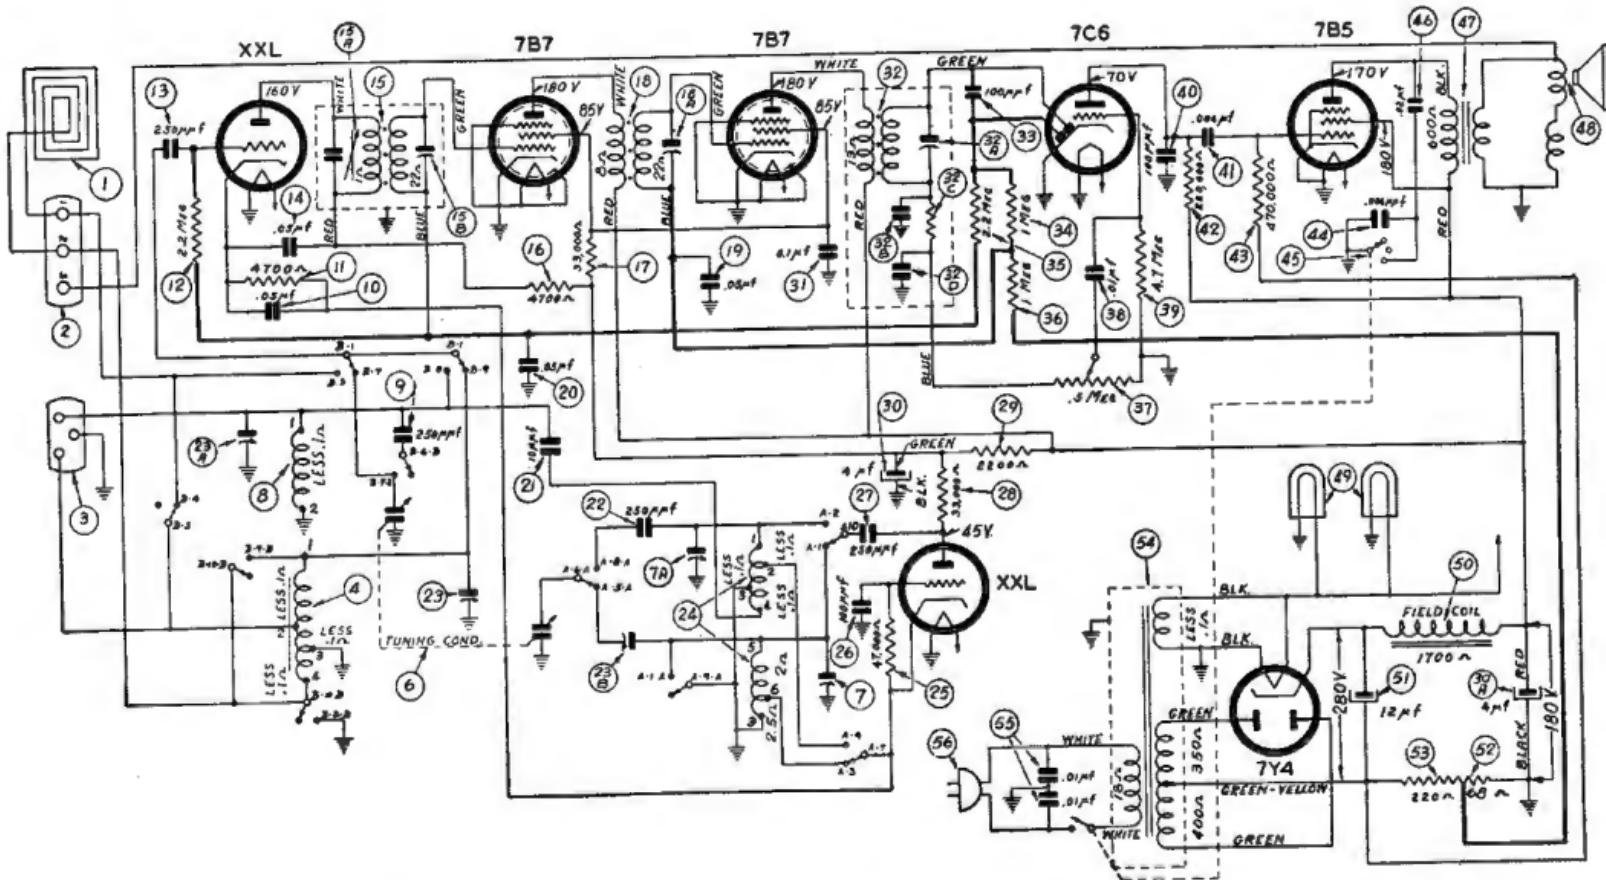

FIG. 12-14.—Philco Model 42-340 receiver. The DAVC circuit is shown in heavy lines.
Figure 12-14 is the schematic diagram of a receiver with a DAVC circuit. Note the following conditions. The delay voltage is developed across resistor (52) in the C voltage divider in the power supply and is applied through resistors (36) and (34) to the AVC diode plate of the 7C6 detector tube. Resistor (35) and condenser (20) form the filter circuit and carry the AVC voltage to the first